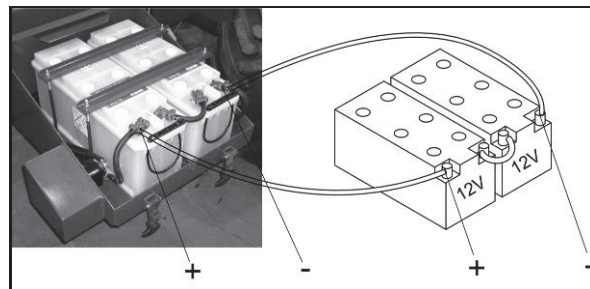

Fig. 121
1. Connect a plus pole (+) and a minus pole (-) of the two jumper batteries with each other to produce the required voltage of 24 V (Fig. 121)